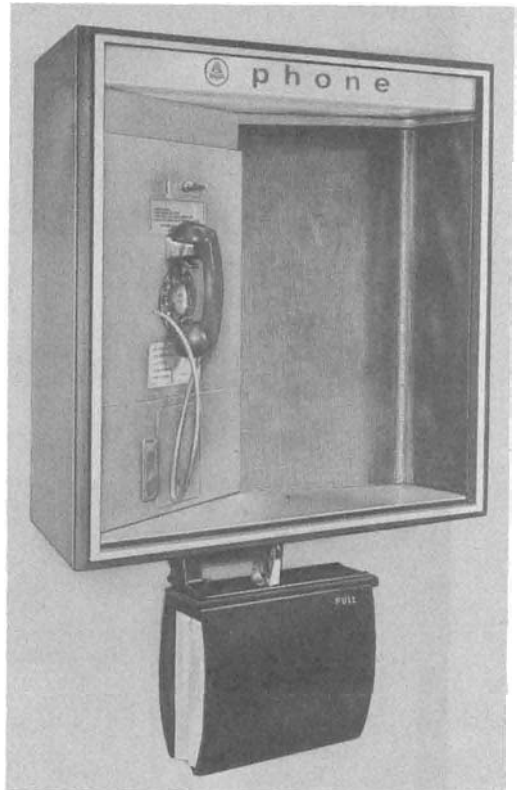

Fig. 1—KS-20194, List 1 Coin Telephone Shelf with KS-20030 Directory Hanger
- (a) KS-20030, List 5 directory hanger (Fig. 1)